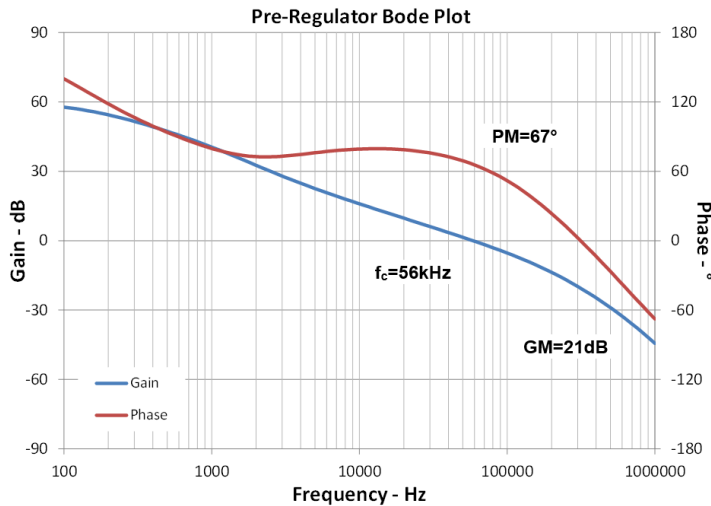

Figure 9: Bode Plot for Pre-Regulator
An Excel-based design tool is available from Allegro that accepts customer specifications and recommended values for both power and compensation components. The pre-regulator bode plot in Figure 9 was generated with this tool. The bandwidth of this system (f_C) is 56 kHz, the phase margin (PM) is 67 degrees, and the gain margin (GM) is 21 dB.